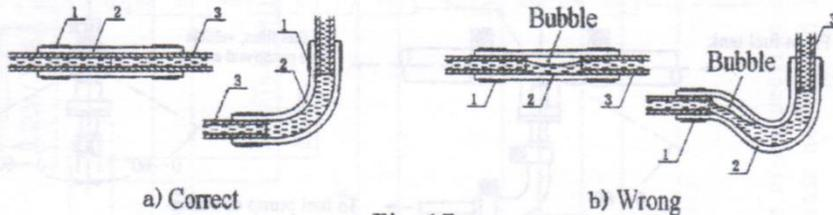

Fig. 17
- Bubbles shall be eliminated from the fuel line (Fig. 17).